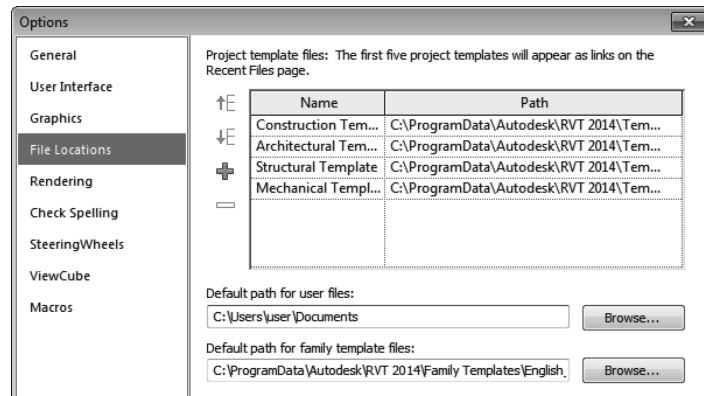

Figure 1–38
- When you save a title block, it should be on the network where everyone has access to it. That way, it is not deleted if someone reinstalls the Autodesk Revit software. Set the default location for the family template files in the Options dialog box, in the *File Locations* tab, as shown in Figure 1–38.